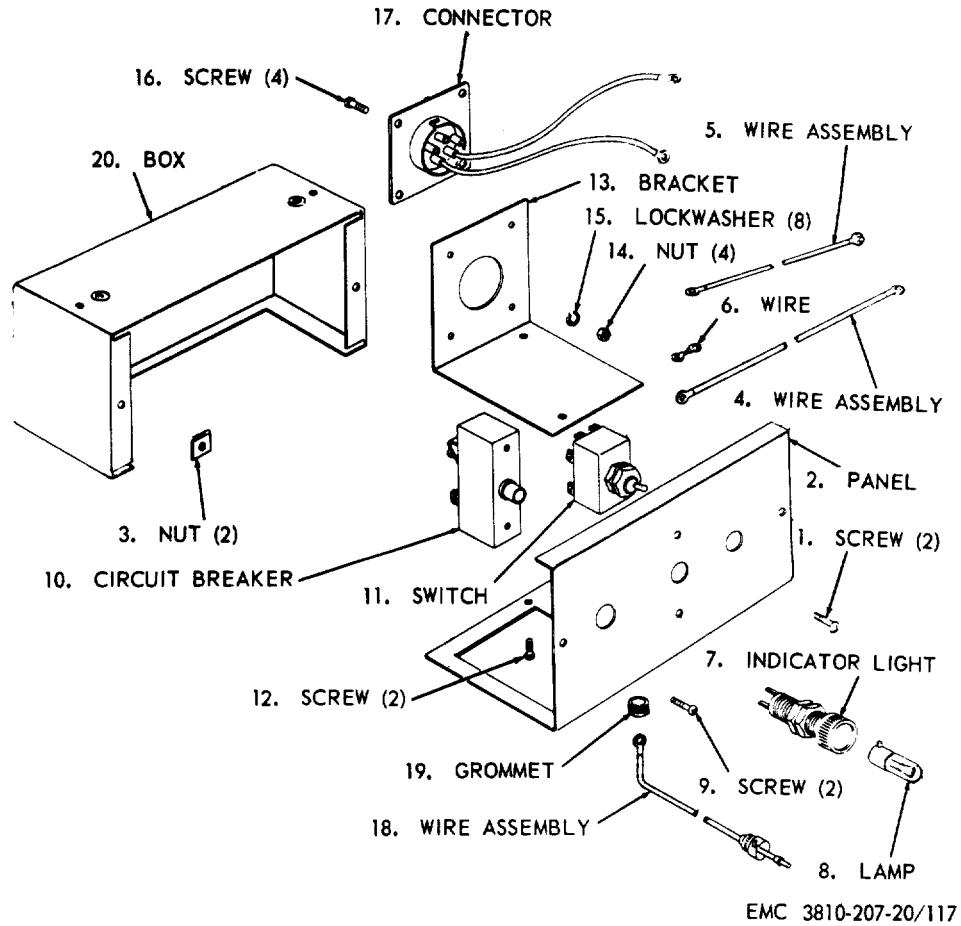

Figure 117. Heater switchbox, exploded view.
b. Disassembly. Disassemble the heater switchbox in the numerical sequence as illustrated on figure 117.
- (1) Clean all parts with an approved cleaning solution and dry thoroughly.
- (2) Inspect all parts for breaks, damage, and proper operation. Replace or repair damaged parts as necessary.
d. Reassembly. Reassemble the heater switchbox in the reverse of the numerical sequence as illustrated on figure 117.